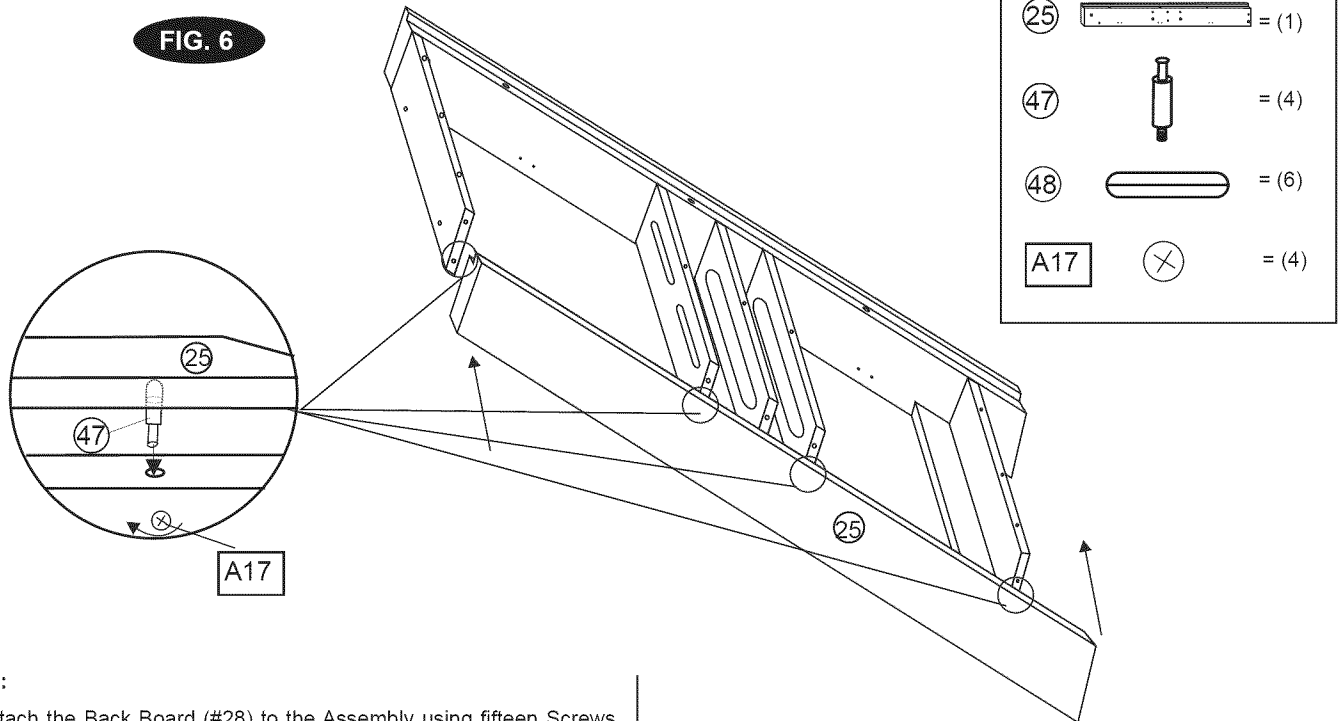

FIG. 7:
- Attach the Back Board (#28) to the Assembly using fifteen Screws (#35) as shown in Fig. 7.